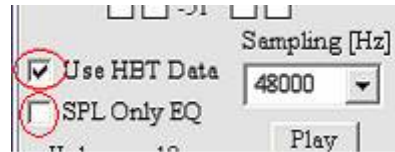

Figure 125. Check the Use HBT Data if the HBT phase was generated before saving the driver files.
- In the System Design Control dialog it is recommended that the Use HBT Data box be checked, Figure 125, provided that the HBT phase was generated before saving the driver files. The SPL Only EQ box is unchecked which will result in linear phase speakers.